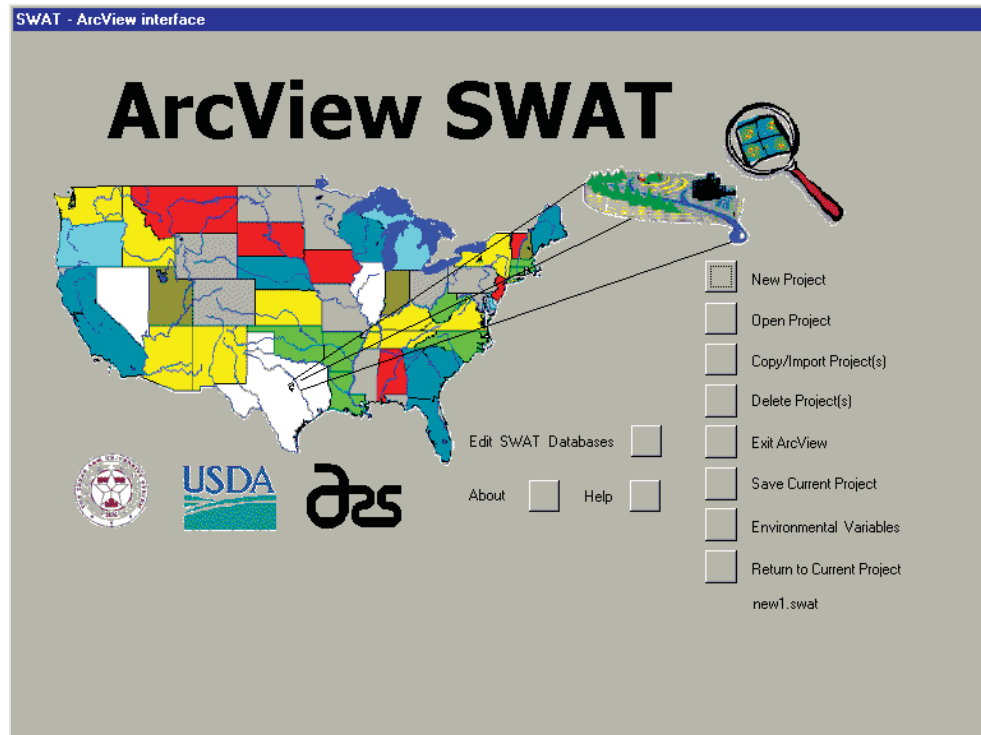

Figure 4.35
- f. **Avswat Main Interface Dialog.** Selecting this option will switch the screen to the Main Interface screen (Figure 4.35). You can return to the project by clicking the button labeled **Return to Current Project**.